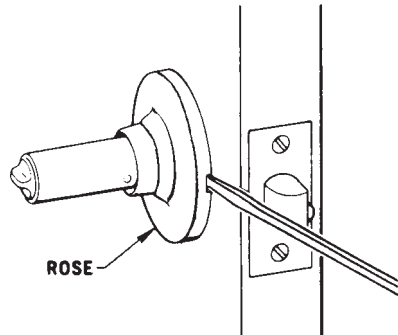

Figure 13.15 Unsnapping rose from rose liner.
2. Unsnap the rose from the rose liner (Fig. 13.15).